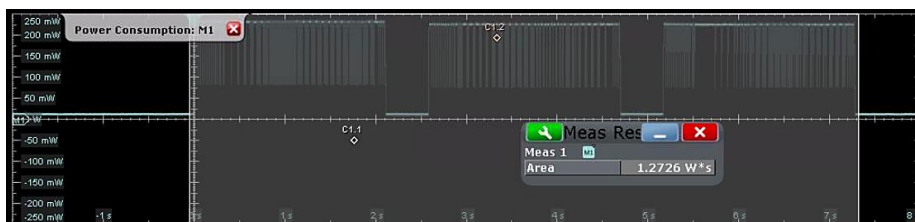

Fig. 5-8: Total Power consumption of the DUT while transmitting three Sigfox frames
- In Fig. 5-7, Start: 0sec & Stop: 2.01s. In Fig. 5-8, Start: 0s & Stop: 7.6s
Each individual Sigfox packet contains three frames. Fig. 5-8 shows the total energy consumption of 1.2726W during the transmission of three Sigfox frames. The energy drain during non-operational mode is also clearly visible in the plot.